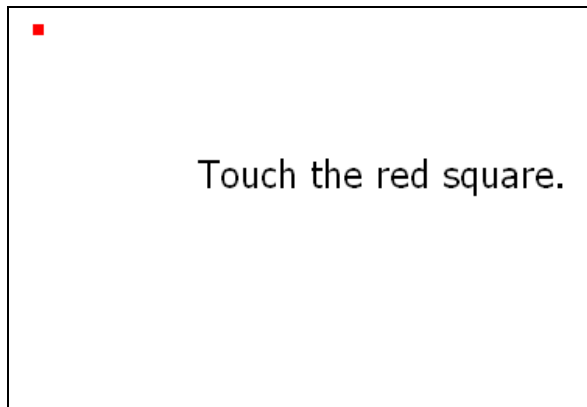

Figure 5-21: Calibration Screen
Step 9: The calibration screen in is shown. See **Figure 5-21**.